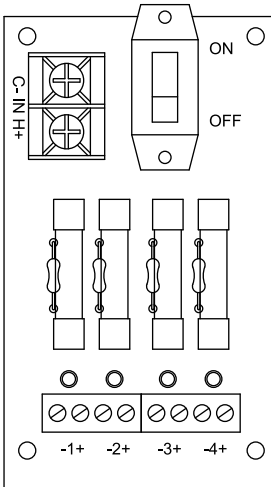
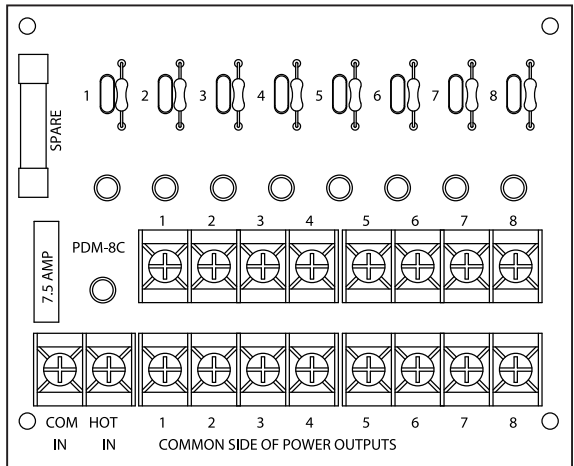

Fig. 1 – PDM-4 (Shown)
Fig. 2 PDM-8C (Shown)
- 3) Connect devices to be powered to output terminals 1-4 PDM4 fig. 1 or 1-8 PDM8 fig. 2. (Observe proper polarity)